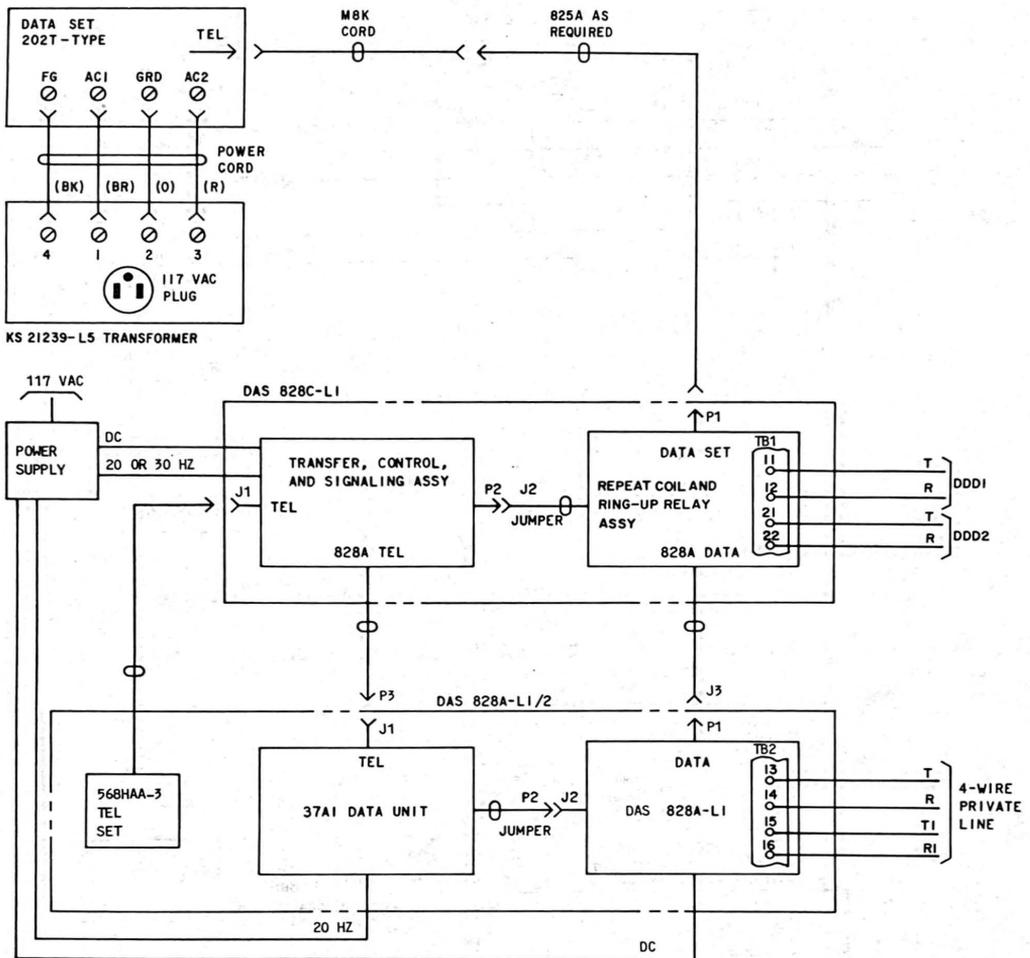

Fig. 10—4-Wire Data Set on 4-Wire Private Line With Switched Network Backup With DAS 828A and 828C, Data/Voice
- Fig. 10—4-Wire Data Set on 4-Wire Private Line With Switched Network Backup With DAS 828A and 828C, Data/Voice